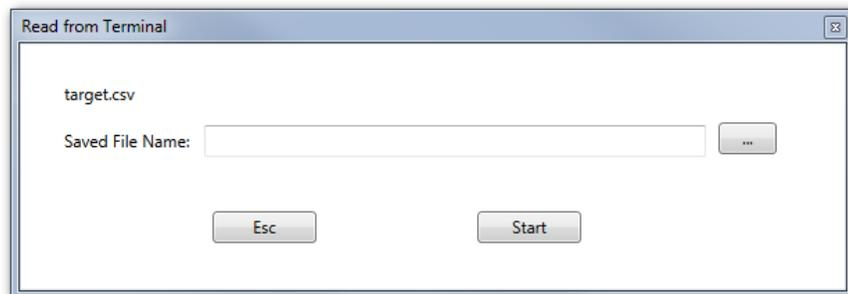
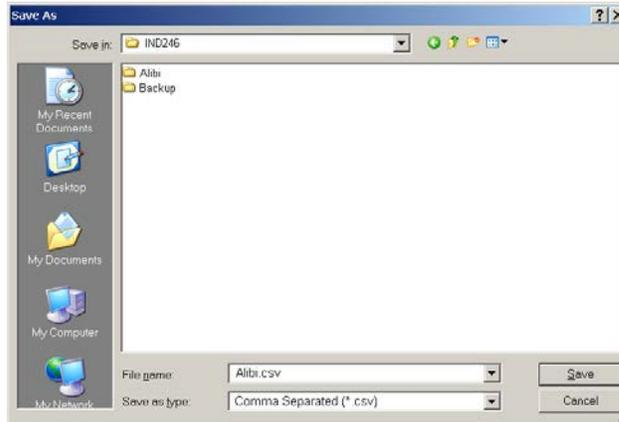

Figure 3-2: Read from Terminal dialog
Figure 3-3: Windows Explorer "Save As" dialog
3. When the Read from Terminal icon is been selected, a new dialog (Figure 3-2) will prompt for the **Saved File Name**. This is the name the file will be given when it is saved to the PC.
- In the **Saved File Name** text entry area shown in Figure 3-2, enter a **Save As** name for the file about to be transferred to the PC.
Alternately, prior to clicking the Start button to begin the transfer, specify a different **Save As** location via the browse button shown in Figure 3-2. Browse to a new location in the Windows Explorer **Save As** dialog (Figure 3-3), and select or enter a **Save As** file name